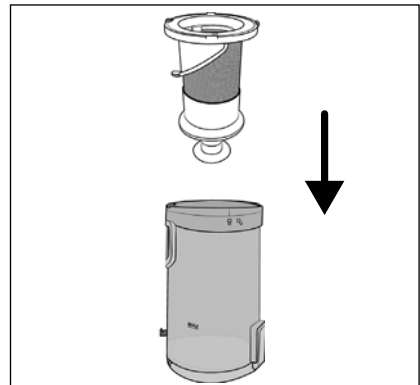

Fig. 23
① Note
- 6) Insert the stainless steel filter **6** into the dust container **7** and push it all the way down (see Fig. 23). Pay attention to the different sized locks on the stainless steel filter **6**. The stainless steel filter **6** can only be inserted into the dust container **7** in one position due to these locks.